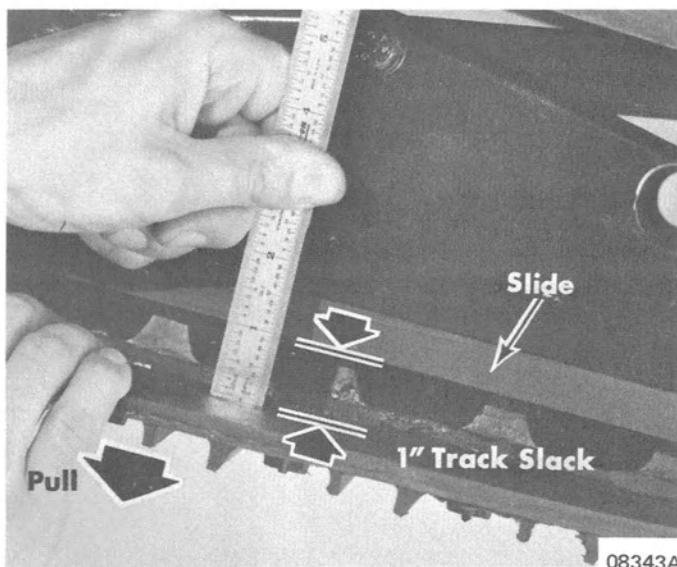
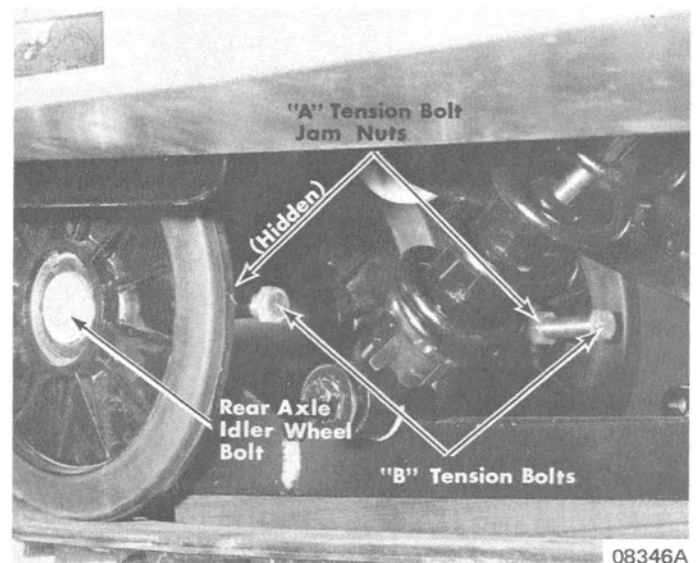

Figure 17. Track Tension
Figure 18. Track Adjusting
Proper track tension and alignment are essential to eliminate undue wear to drive components, track and slide rail suspension and to maintain efficient, economical operation of snowmobile. Track tension and alignment should be checked after first hour of operation and every 25 hours of operation thereafter. Track tension is correct when a total slack of 1" (25.4mm) in track is obtained between bottom of each slide and inside surface (bottom) of track. With entire track supported off ground and, while pulling down on track, measure track tension at center of track. (Figure 17) If necessary, adjust track tension, following.
1. Loosen attaching bolts, which secure idler wheels (Figure 18) to rear axle, far enough to allow movement of rear axle assembly.
2. Loosen tension bolt jam nuts "A" on both sides of suspension. (Figure 18)
3. Adjust tension bolts "B" (Figure 18) equally on both sides of suspension until correct tension is attained on both sides, as shown in Figure 17.